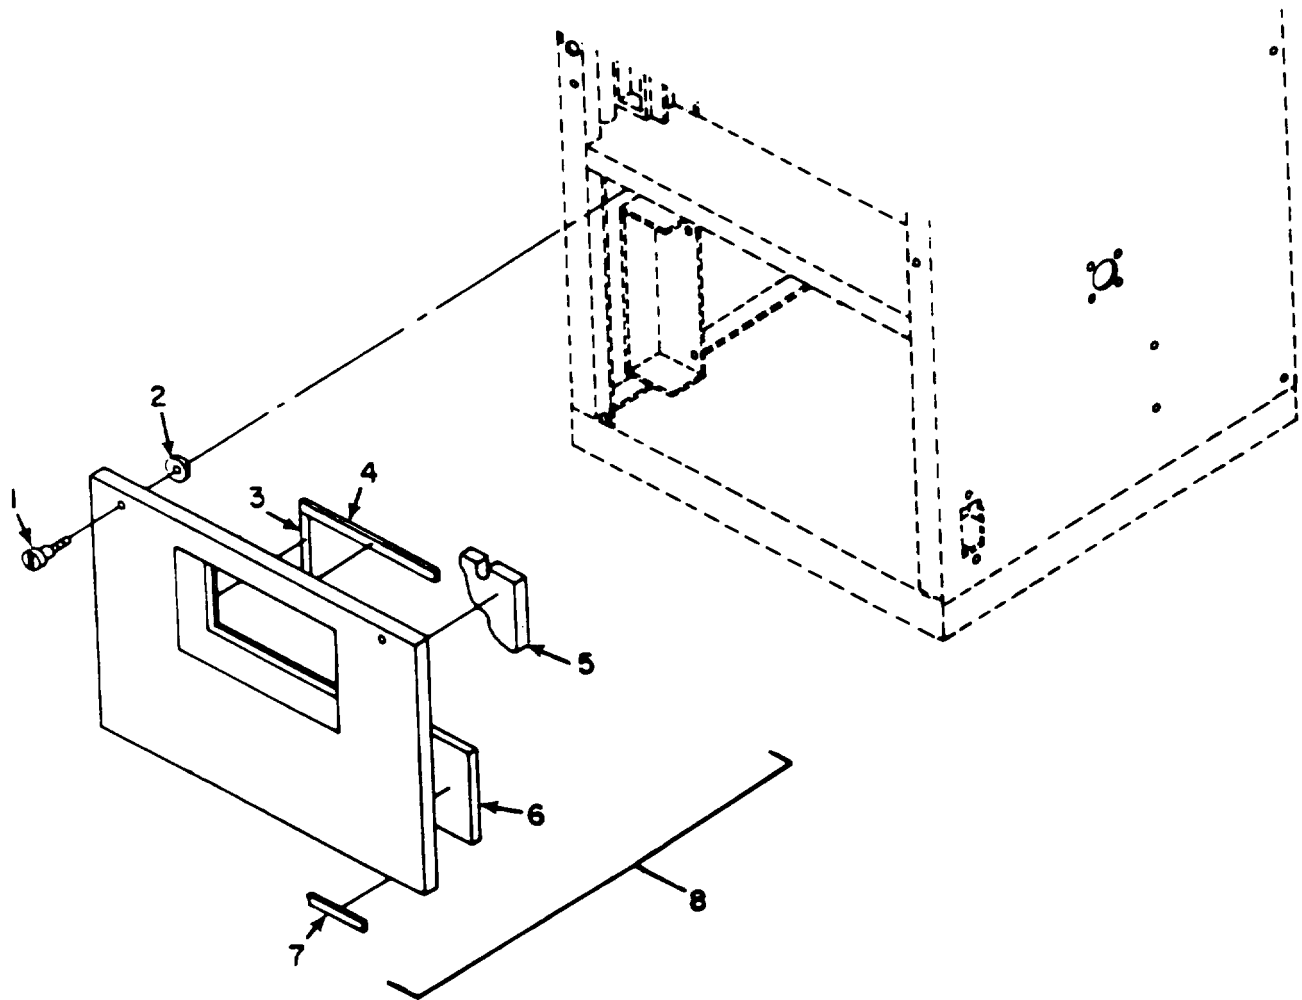

**Fig. 4-6. Top Panel.**
- (b) Remove 16 screws (1) and rain seal washers (2) and 2 panel fasteners (4) and remove canvas cover (3).
**2. Top Panel (See Figure 4-6).**
- (b) Insulation and Sealing Strips (Fig 4-6, items 3-7; Fig 4-7, items 3-7).
(a) Install top panel (8) as shown in Figure 4-6.